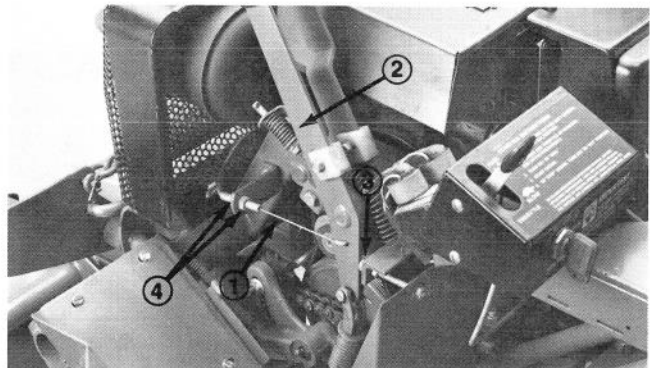

Figure 44
3. Cable connected to traction control lever should be tight but not pulling lever away from stop screw (Fig. 44).